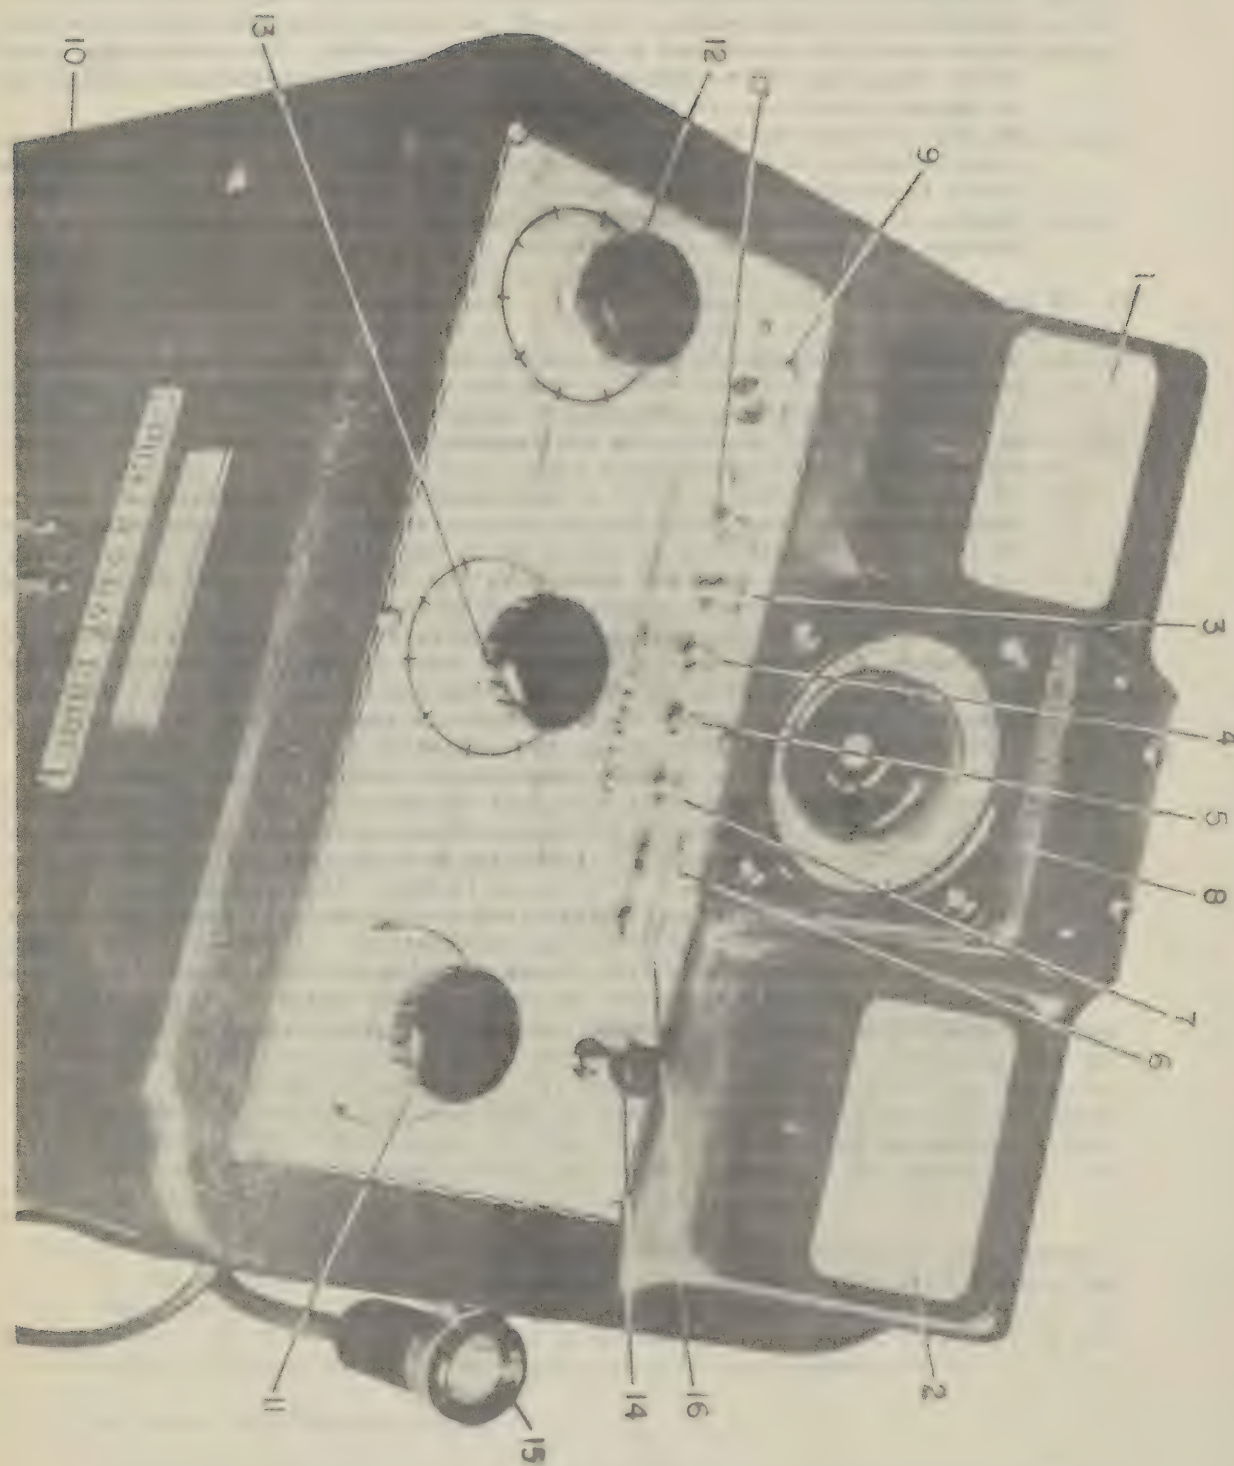

FIG. 1
18. **KILOVOLT & X-RAY FILAMENT METER** - The meter #1, Fig. 1, is a combination x-ray filament meter and kilovoltmeter calibrated directly in kilovolts in three ranges. For milliamperages from 5 to 40 use the scale marked 30 M.A., for milliamperages of 175 to 200 use the scale marked 200 M.A. For intermediate milliamperages it will be necessary to interpolate between the three scales. The kilovoltmeter is calibrated to read at the indicated values with load on. In series with the kilovoltmeter will be found two adjustable 10,000 ohm resistors which can be adjusted to change the kilovoltmeter reading. The more resistance inserted the lower the kilovoltmeter will read. This way the KV output can be increased. Likewise, if resistance is taken out, the KV meter will read higher, and thus the KV output will be lowered. These resistors are set correctly according to calibrations taken at the factory. However, a slight change may be indicated as necessary in some installations. A calibration of the unit should be made before changing their values. These two resistors are located in a bank of four similar resistors mounted alongside of the left front of the autotransformer and are tagged so as to be readily identified.
19. **FILAMENT METER SWITCH** - Switch #5, Figure 1, is a two-position, self-returning switch, which normally connects the kilovoltmeter in the circuit all of the
20. **MILLIAMMETER** - No. 2, Figure 1, is an AC milliammeter with a double scale covering the entire range of the machine. It indicates the current passing through the x-ray tube which is controlled by the filament control #11.
24. **BUCKY RELEASE SWITCH** - The control has incorporated a bucky release switch (#5 on Figure 1). If the timing is to be done by the bucky, the bucky leads should be connected as in the wiring diagram (magnetic release leads to studs 3 and 4, and contact device leads to studs 2 and 2A). Then by cocking the bucky and setting the bucky dial to the desired exposure time, exposure can be obtained by depressing this bucky release switch on the control panel.
26. **TIMER SWITCH** - Switch #7, Figure 1, is for operation of the timer #8, Figure 1. We recommend that this switch remain in the "OFF" position except when the timer is being used in order to prevent unnecessary wear to the bearing of the timer mechanism.
27. **MAIN SWITCH** - Switch #9, Figure 1, is the main switch, which is, of course, in series with the incoming line. This switch should be in the "OFF" position when the control is not in use. Otherwise the autotransformer will consume a small amount of current from the line when it is unnecessary.
28. **CIRCUIT BREAKER** - Knob #14, Figure 1, is the circuit breaker reset button. This circuit breaker has been set at the factory to open at milliamperages over 200. If it is desired, this setting can be changed by raising or lowering the adjusting screw on the bottom of the circuit breaker, inside of the "RT" control. It is a double toggle safety type breaker, and will open the circuit on overloads even though the knob be held or tied down.
30. **X-RAY FILAMENT REGULATOR & FILAMENT LIMITING RESISTORS** - No. 11, Figure 1, is the x-ray filament regulator. This is connected in series with a 75 ohm, 160 watt semi-variable resistor mounted at the left front of the control hanging down from the autotransformer support straps. With the control set on large focus this resistor should be so adjusted that the maximum desirable milliamperage is obtained with the filament regulator turned as far to the right as possible (a little leeway, of course, should be allowed). In this manner the regulation of the filament control will be much finer in that any change of the control knob will cause a minimum of change in the x-ray filament current. This will also result in limiting the x-ray tube milliamperages so that accidental overloads beyond the control rating of 200 M.A. should not occur.